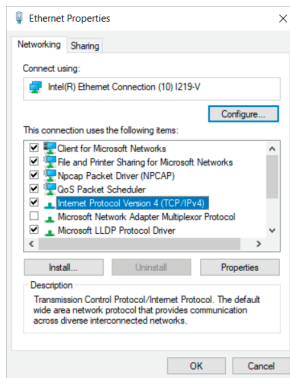

Fig.1
3. On the properties screen, select **Internet Protocol Version 4 (TCP/IPv4)** and click on Properties (Fig 1).